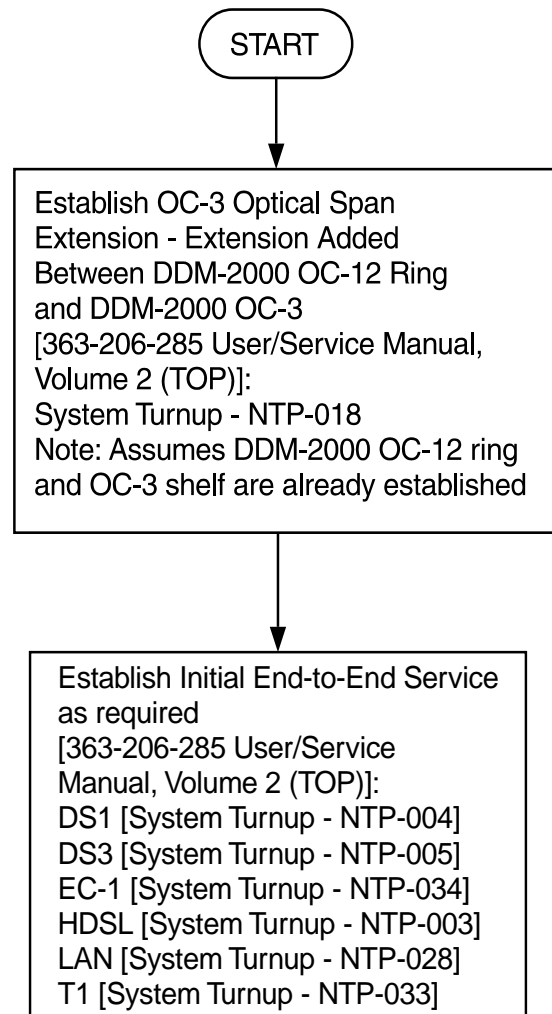

Figure 16 – DDM-2000/FT-2000 Large Network Configurations — OC-3 Optical Span Extension Between DDM-2000 OC-12 Ring and DDM-2000 OC-3 Ring
- Figure 16 DDM-2000/FT-2000 Large Network Configurations — OC-3 Optical Span Extension Between DDM-2000 OC-12 Ring and DDM-2000 OC-3 Ring